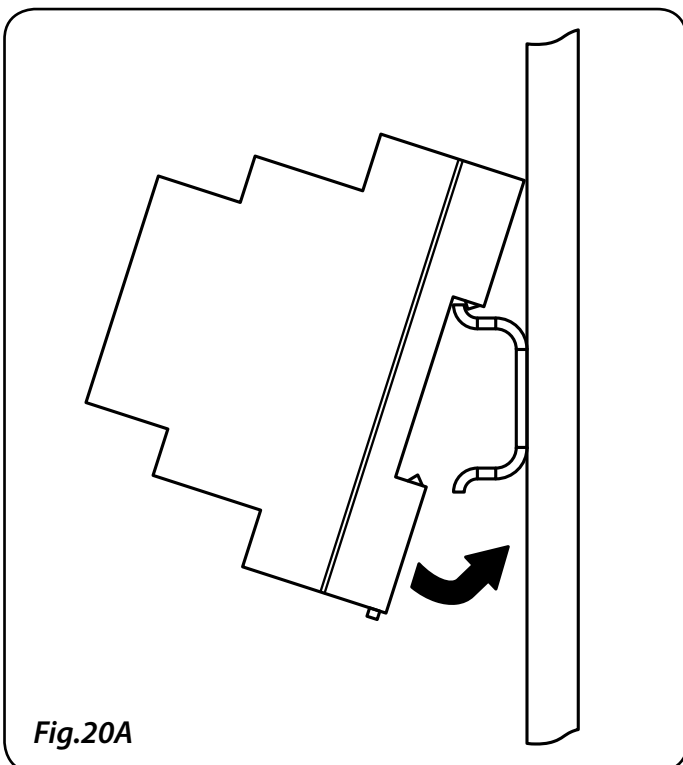
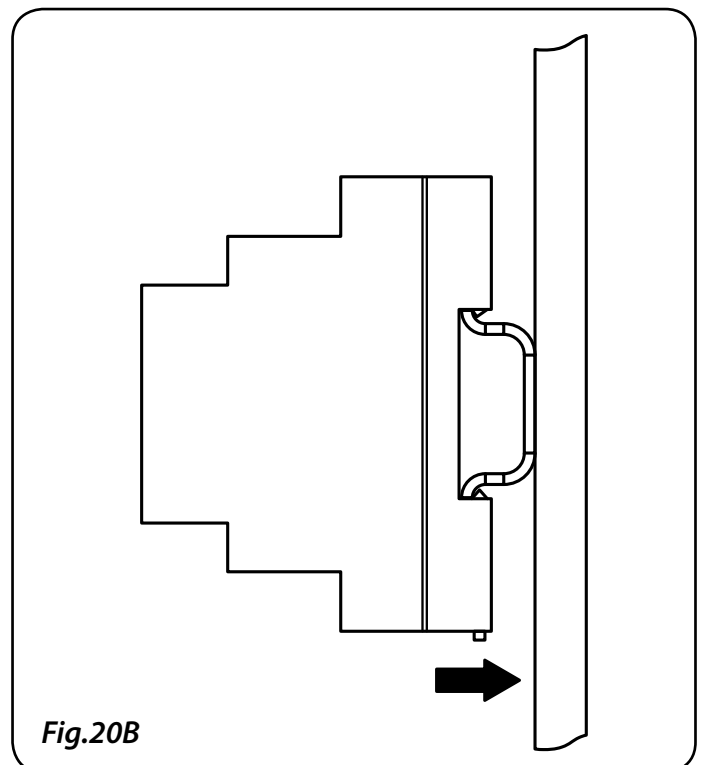
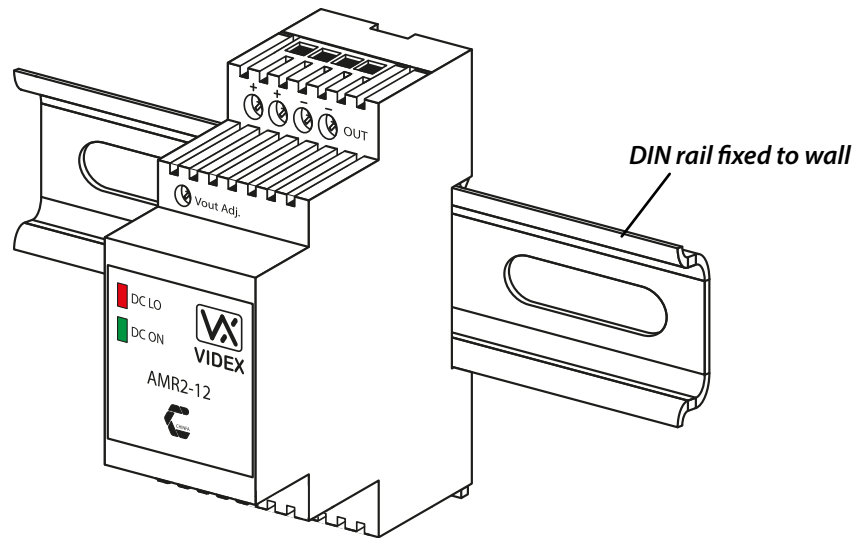

Fig.20A
Fig.20B
Fig.20C
- Fix the power supply to a DIN rail (following Fig.20A, Fig.20B and Fig.20C).